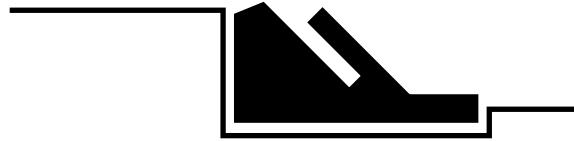

Fig. C5-15 - Gasket in correct position
- Replace the gasket on the inner surface of the cover for the heat exchanger. Figure C5-15 shows how the gasket should sit in its slot. Replace the gasket (p/n R2069400) if it is damaged.